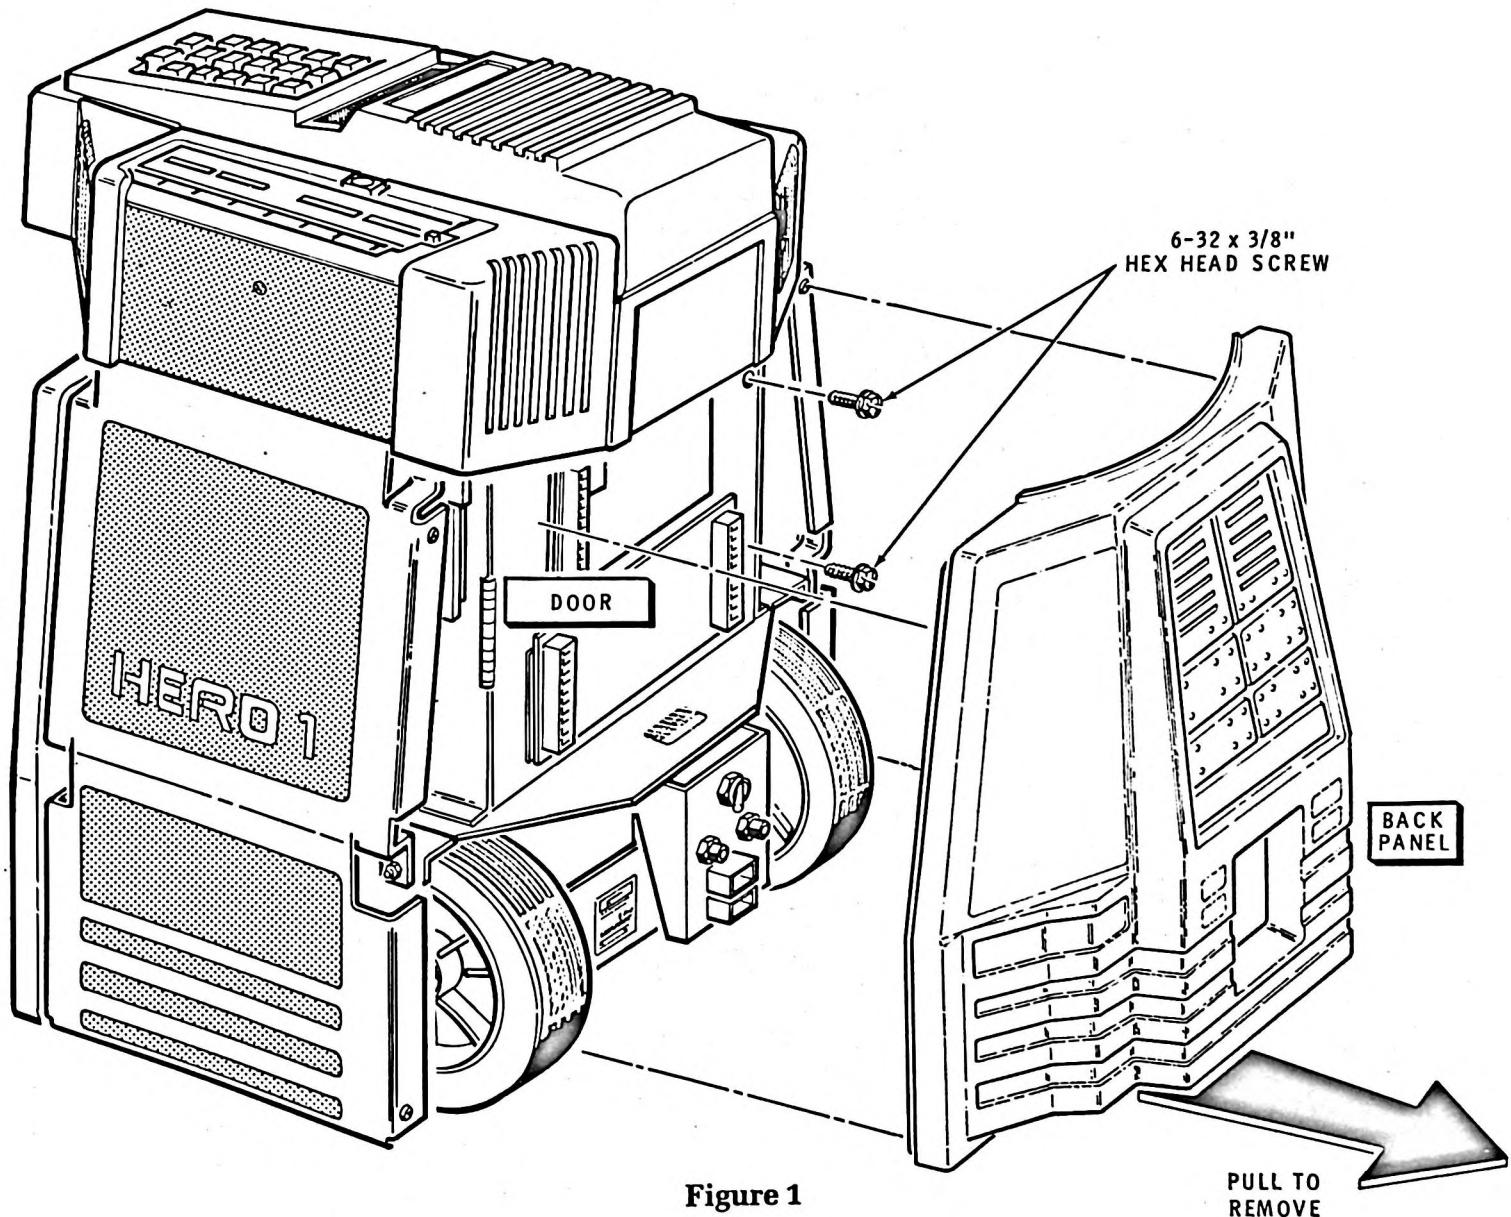

Figure 1
- () If your Robot is completely assembled, refer to Figure 1 and remove the rear panel. You may have to turn the head if you have an arm installed.